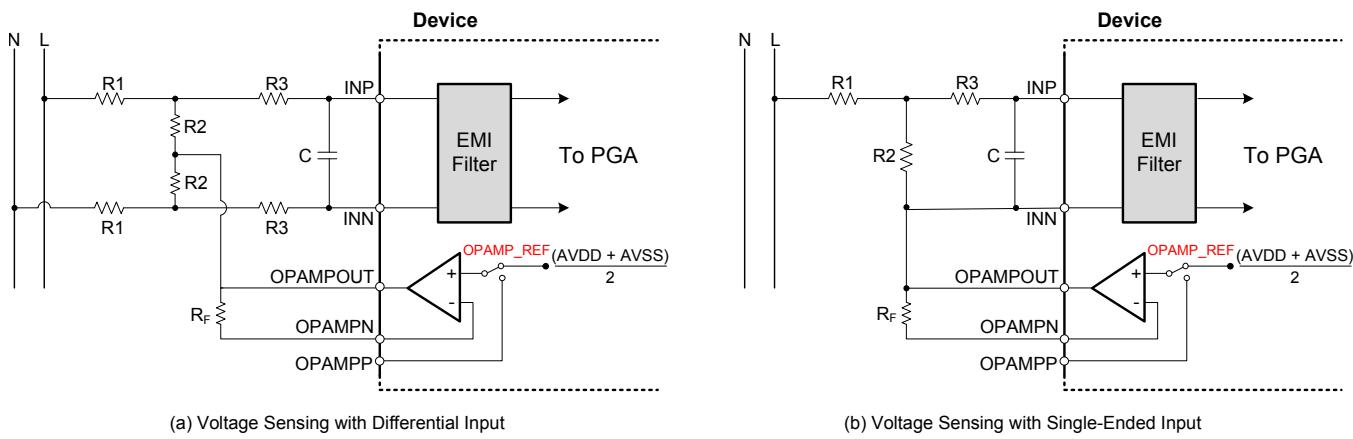

**Figure 41. Simplified Current-Sensing Connections**
Figure 41 shows a simplified diagram of typical configurations used for current sensing with a Rogowski coil, current transformer (CT), or an air coil that outputs a current or voltage. In the case of current-output transformers, the burden resistors ( $R_1$ ) are used for current-to-voltage conversion. The burden resistor output is connected to the ADS130E08 INP and INN inputs through an antialiasing RC filter for current sensing. In the case of voltage-output transformers (such as certain types of Rogowski coils), the transformer output terminals are directly connected to the ADS130E08 INP and INN inputs through an antialiasing RC filter for current sensing. The common-mode bias voltage  $(AVDD + AVSS) / 2$ , can be obtained from the ADS130E08 by either configuring the internal op amp in a unity-gain configuration using the  $R_F$  resistor and setting bit 3 of CONFIG3: Configuration Register 3, or it can be generated externally with a simple resistor divider network between the positive and negative supplies.